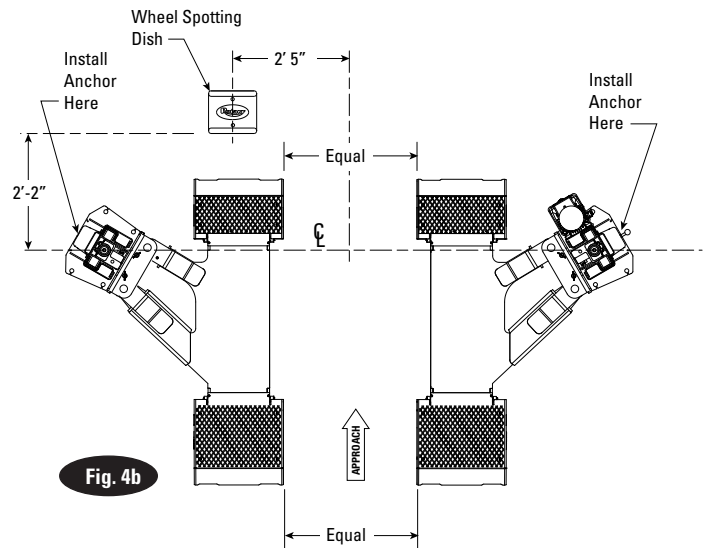

Fig. 4b
6b. Using appropriate equipment, raise carriage to first latch position. Be sure locking latch is securely engaged. Install one anchor bolt as indicated in Figure 4b per instructions in step 7.
6d. Aligning Pads: With pads installed, measure the inside distance between the front end of the pads and the rear end of the pads. If they are not equal, pivot the pad structure slightly to achieve parallel pads. Be sure pads are parallel and in line front to rear, Fig. 4b. Install (2) 5/16-18NC x 1" HHCS into rear arm and torque to 17 ft-lb. Install (3) 3/8-16 x 1" set screws (adding blue Loctite) into the rear arm and tighten to 25 ft-lb. If the pads cannot be completely aligned using the bolts and set screws, the column(s) can be rotated slightly by loosening the anchor bolt nut.